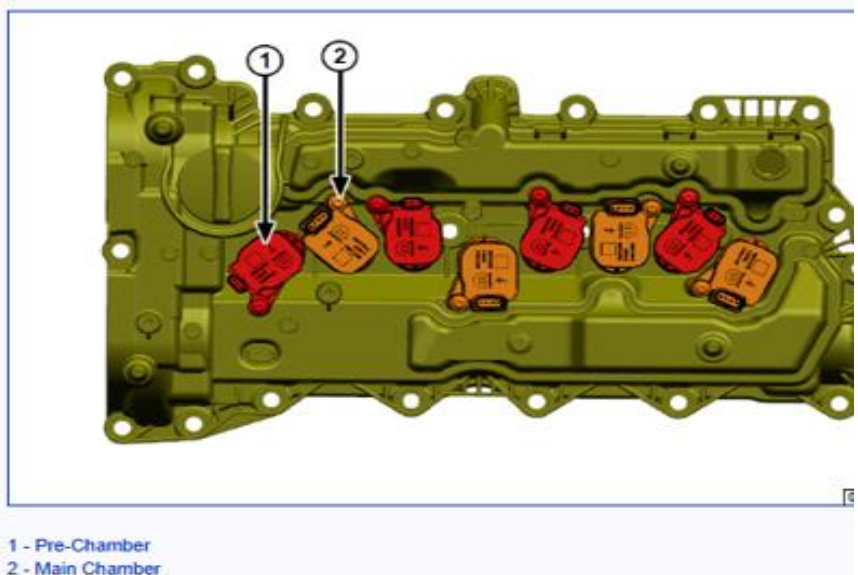

Figure 4 – Cylinder Ignition Coils
14. Disconnect the main chamber ignition coil(s) wire harness connector(s) (Figure 4).
16. Loosen the main chamber ignition coil captive bolt(s) on all the main coils (Figure 4).
17. Remove the main chamber ignition coil(s) ② from the cylinder head with a twisting motion if needed (Figure 4).